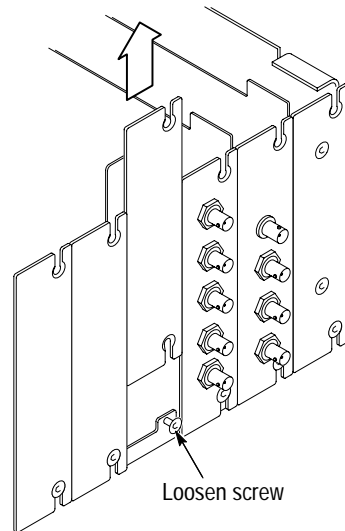

Figure D-3: Rear panel removal
5. Remove the appropriate rear panel as shown in Figure D-3. Loosen, but do not remove the bottom screw. You will use it later to secure the module.
4. Remove the appropriate rear panel as shown in Figure D-3 on page D-4. Loosen, but do not remove the bottom screw. You will use it later to secure the rear panel.